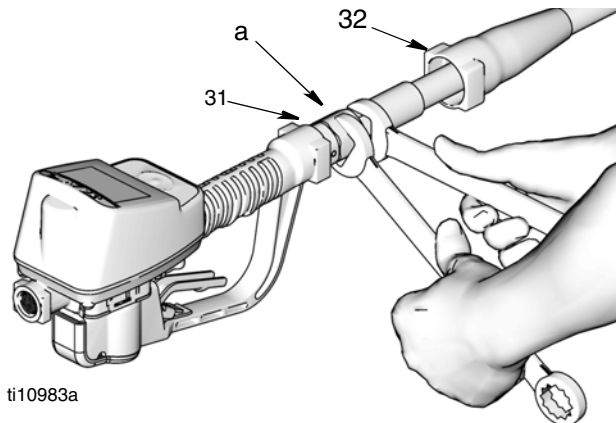

FIG. 16
## Installing Meter (FIG. 16)
2. Slide the swivel boot (32) back, over the hose, small end first to access the swivel fitting (a).
3. Apply thread sealant to the male threads of the hose fitting. Thread the hose fitting into the meter swivel (31). Use two wrenches to tighten securely (FIG. 16).